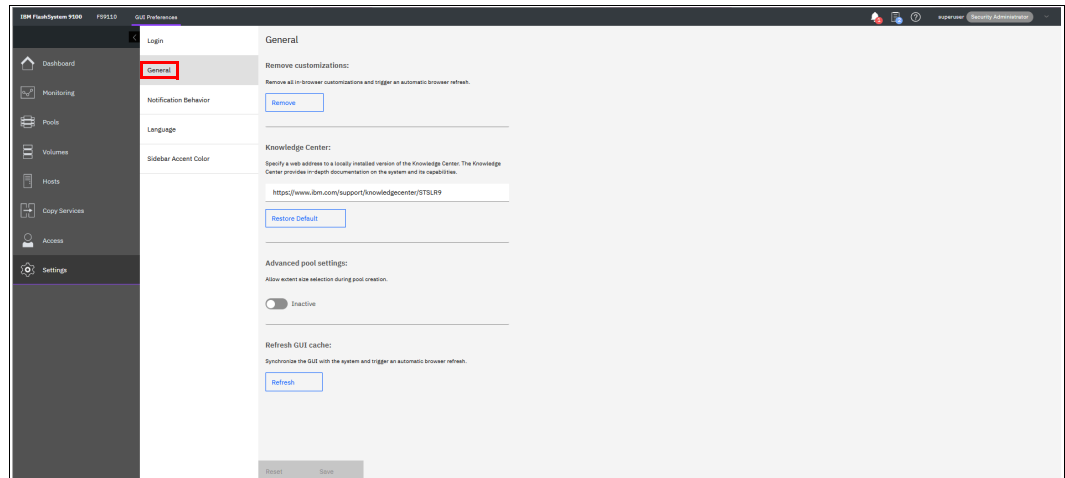

Figure 4-121 General GUI Preferences window
1. From the Settings window, click **Settings** and select **GUI Preferences** → **General** (see Figure 4-121).